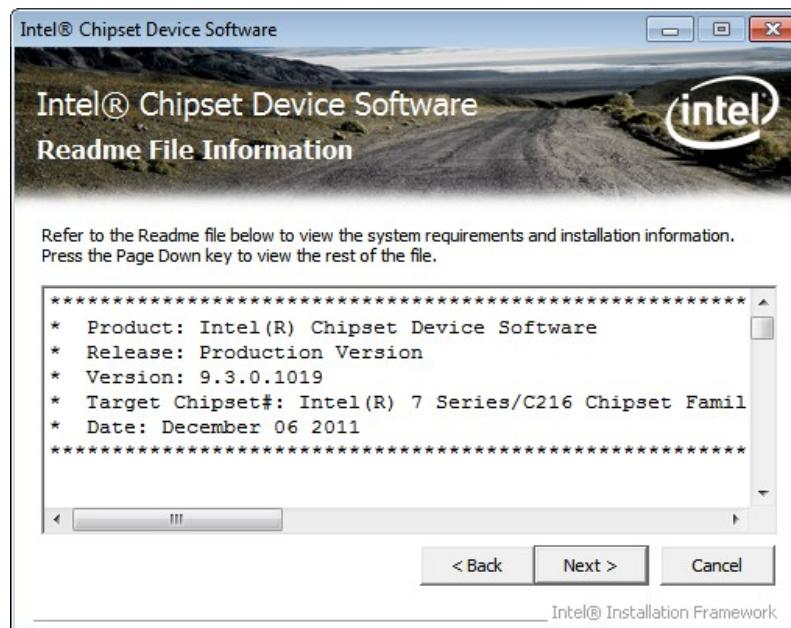

Figure 6-5: Chipset Driver Read Me File
Step 8: The Read Me file in **Figure 6-5** appears.